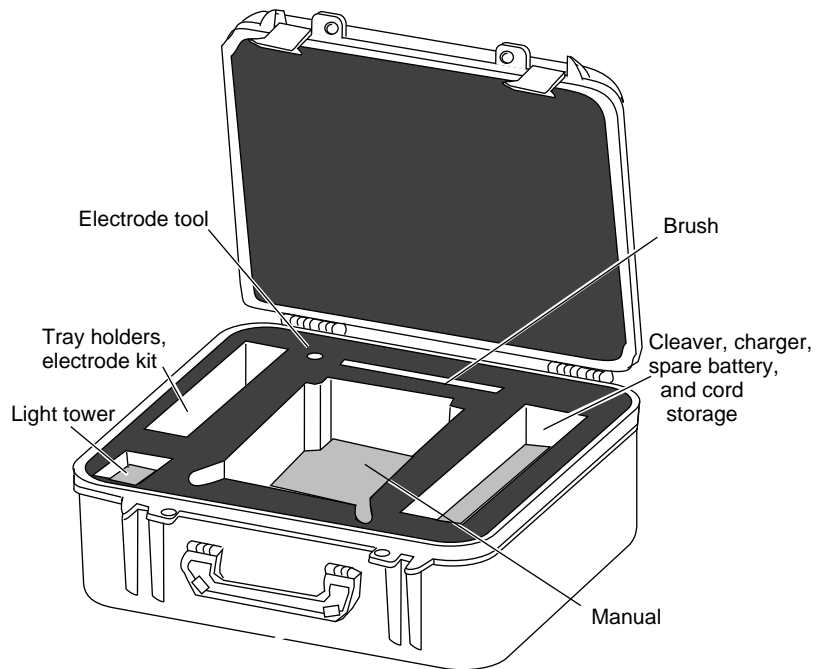

Figure 81
8.10 Figure 81 shows the recommended storage locations in the transit case.